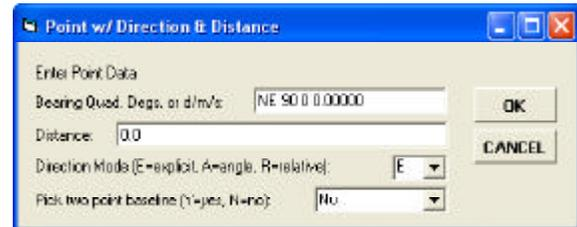

Figure 4
- Point, the multi-input dialog box of Figure 4 is displayed, in which case go to **Step 4**. The selected point becomes the base point.
- (iii) A relative direction as defined below (*direction mode=R*). This option is applicable only when the base point is at an existing point, and works in conjunction with the last data field of the dialog box of Figure 4; it is not applicable when the base point is at the endpoint of a line, polyline or curve.
3. Enter in the data fields of Figure 4.